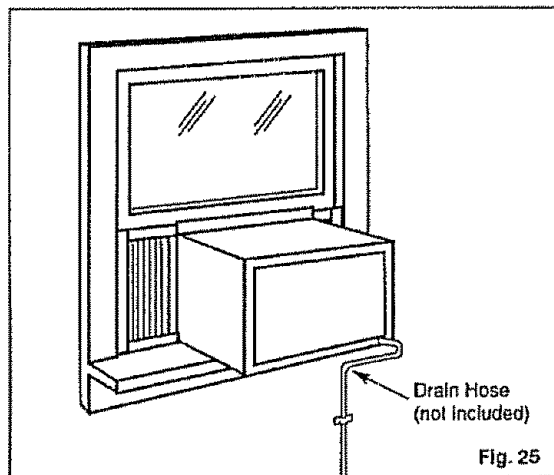

Fig. 25
A drain tube connection (excluding hose) is provided to redirect condensation overflow. See Fig. 25.
- Under very humid conditions, water removal may be excessive enough to overflow from the rear of the unit or increase noise levels of the air conditioner. If this occurs, you may want to attach a section of (garden) drain hose (not included) to the drain plug located at the rear of the unit, this will permit condensation to run off more conveniently. See Fig. 25.